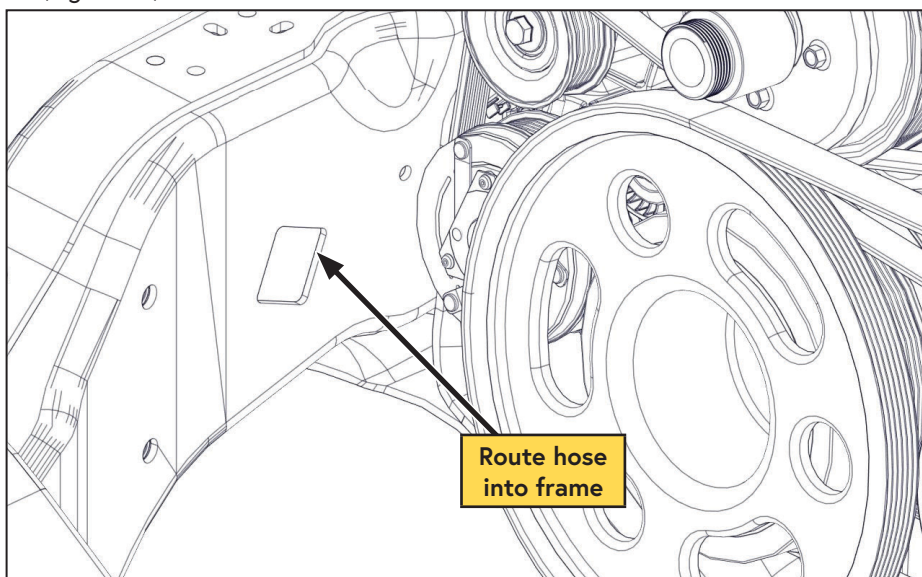

Figure 55 — Route oil hose
Due to vehicle frame variations, the square hole (Figure 55) may not be present.
- ☐ Route the hose into the frame via the square located near the AC compressor (Figure 55).